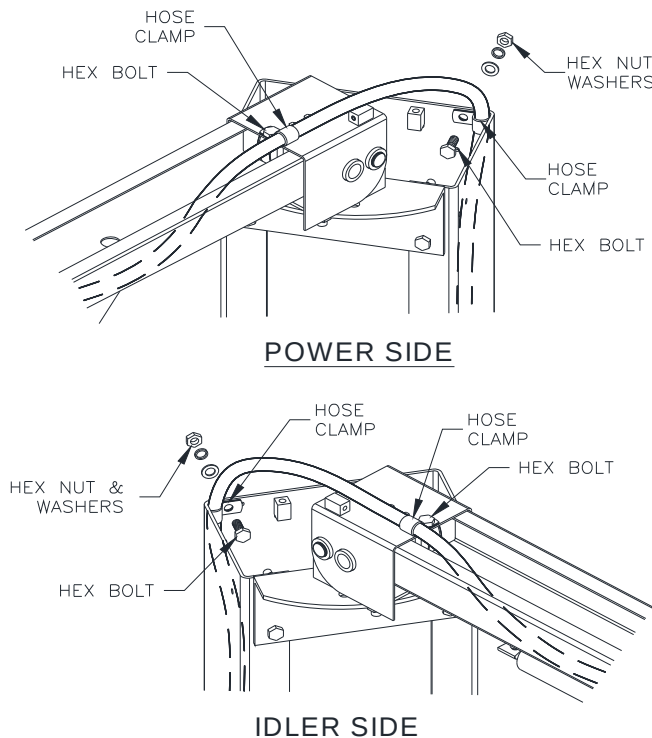

Fig 17 – Hydraulic Hose Routing
- 33) Clamp the Idler Hose to the Overhead and Column Extensions using a (1 set) hose clamp, M10 x 25 hex bolt, nut, flat washer, and lock washer as shown in **Fig 17** below. For both the Symmetric and Asymmetric configuration, the hose clamp in the Column Extension should be on the same side as the hose guides welded on the Columns. **IMPORTANT: ENSURE HOSE DOES NOT CONTACT CYLINDERS WHEN LIFT IS FULLY RAISED.**